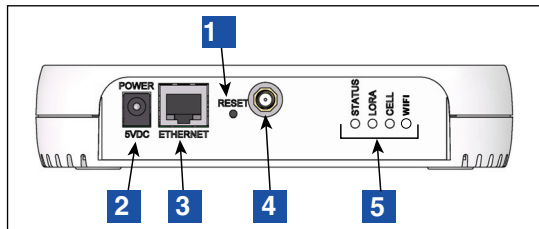
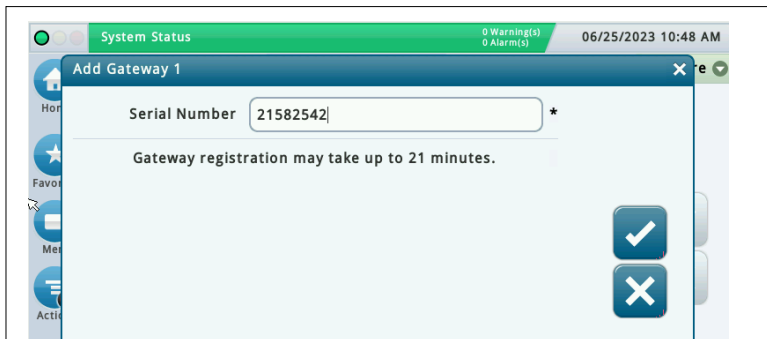

Figure 6. Gateway Panel Interface
Figure 18. Entering Gateway Serial Number
LEGEND FOR NUMBERED BOXES IN Figure 6
5. Enter the Serial Number of the Gateway, (see example in Figure 18) then click the  button to save.
**The Gateway registration process can take up to 6 minutes from when the Gateway is powered up in Step 11 until 'Registration Successful' is shown on the Gateway setup screen per Figure 19. Fifteen minutes is allotted for the completion of Steps 6. through 10. As a result, the Add Gateway popup shown in Figure 18 indicates that Gateway registration may take up to 21 minutes to complete.**
9. Connect the Ethernet cable between the Gateway and the ATG. The Gateway must be connected to the TLS console's ETH2 port (either of the (2) RJ-45 connectors).
11. Power on the Gateway – observing the LED annunciators on the Gateway Panel Interface (ref. Figure 6) wait for the LORA LED to turn on solid and the STATUS LED to blink twice. This indicates that the Gateway is ready for use. However, another approximately 3 minutes is required after the Gateway LED's indicate that it is ready for use until the ATG receives the Gateway's identification/status information and then registers the Gateway to it.